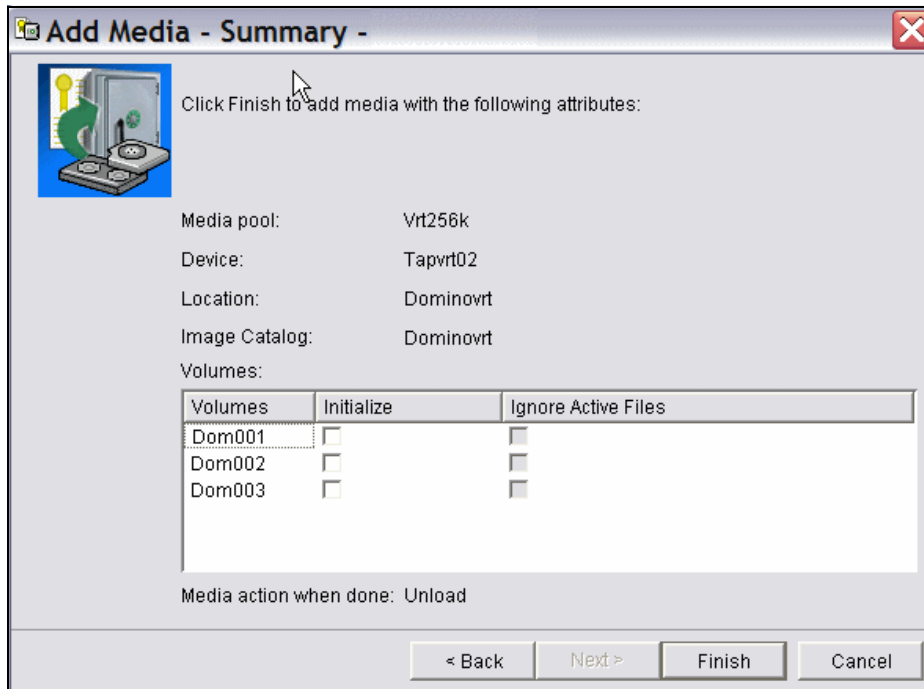

Figure 5-39 BRMS backup policy, add media summary
26. In the Add Media Summary window shown in Figure 5-39 on page 227, click **Finish**.